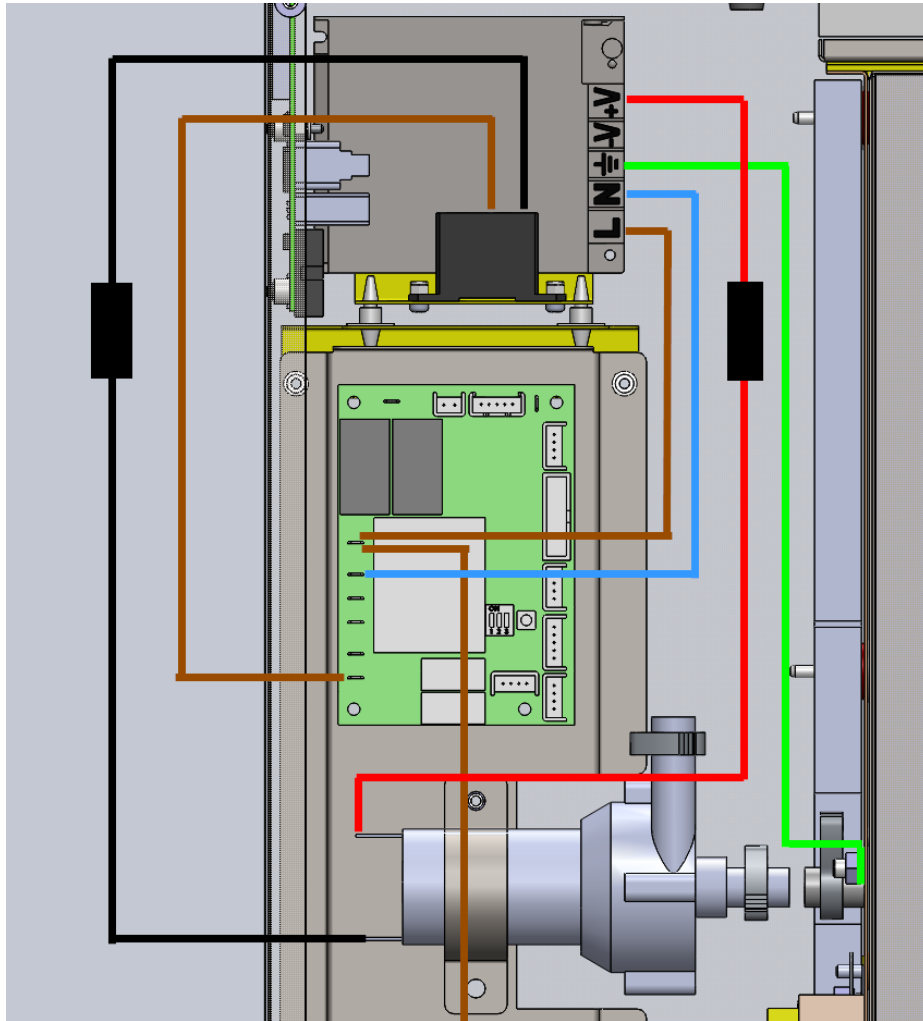
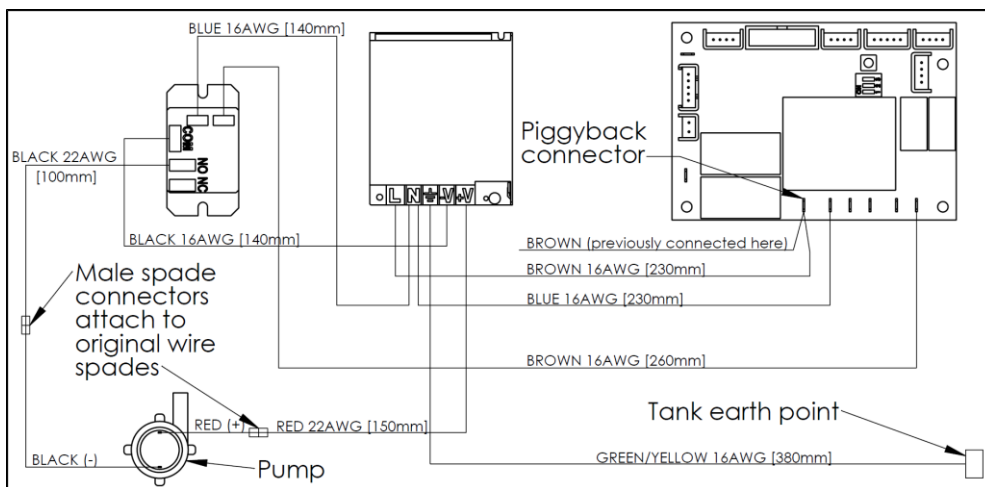

Fig 7
Fig 8
The wiring diagram in Fig 8 is common for both UC4/UC10 only. It's just the orientation of the PSU that is necessary to fit correctly.
- Use the wiring diagram in Fig 7 & 8 to wire the new power supply to the PCB board. Use the piggy back connectors to connect the Live as shown in Fig 8. Ensure the earth cable is connected to the machine body.
- Use the wiring diagram in Fig 8 & 10 to wire the new power supply to the PCB board. Use the piggy back connectors to connect the Live as shown in Fig 8. Ensure the earth cable is connected to the machine body.